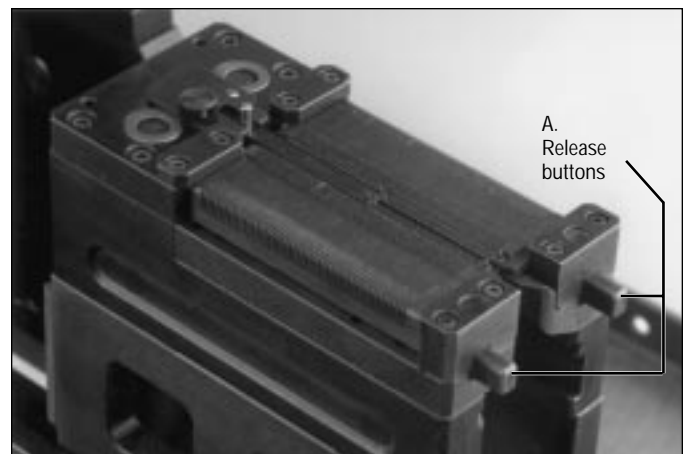

Figure 7. "U" cover plate
- Holding the connector stop down in place, replace the yolk shaped cover plate and tighten the thumbscrew. To verify the connector stop is correctly installed, press the release buttons on the front of the fixture unit (A of Fig. 7) and the connector stop should spring to the back. Close the grooved plates and the stop should spring forward again.
- Place the first cover, shaped like the letter "U", into the slot at the top of the fixture unit (Fig. 7), open end toward the operator and the grooved side with the posts facing up. Push the cover down in the slot and back against the spring loaded connector stop previously installed to lock it in place.